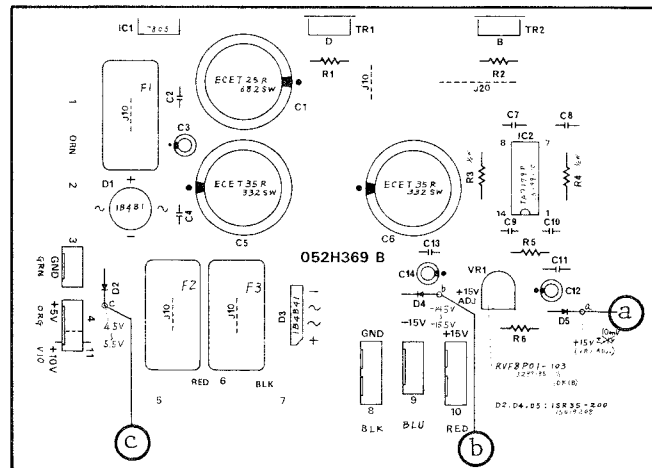

Fig. 24
- Check the voltage at "c". It should be $+4.5V$ to $+5.5V$. Refer to Fig. 24.